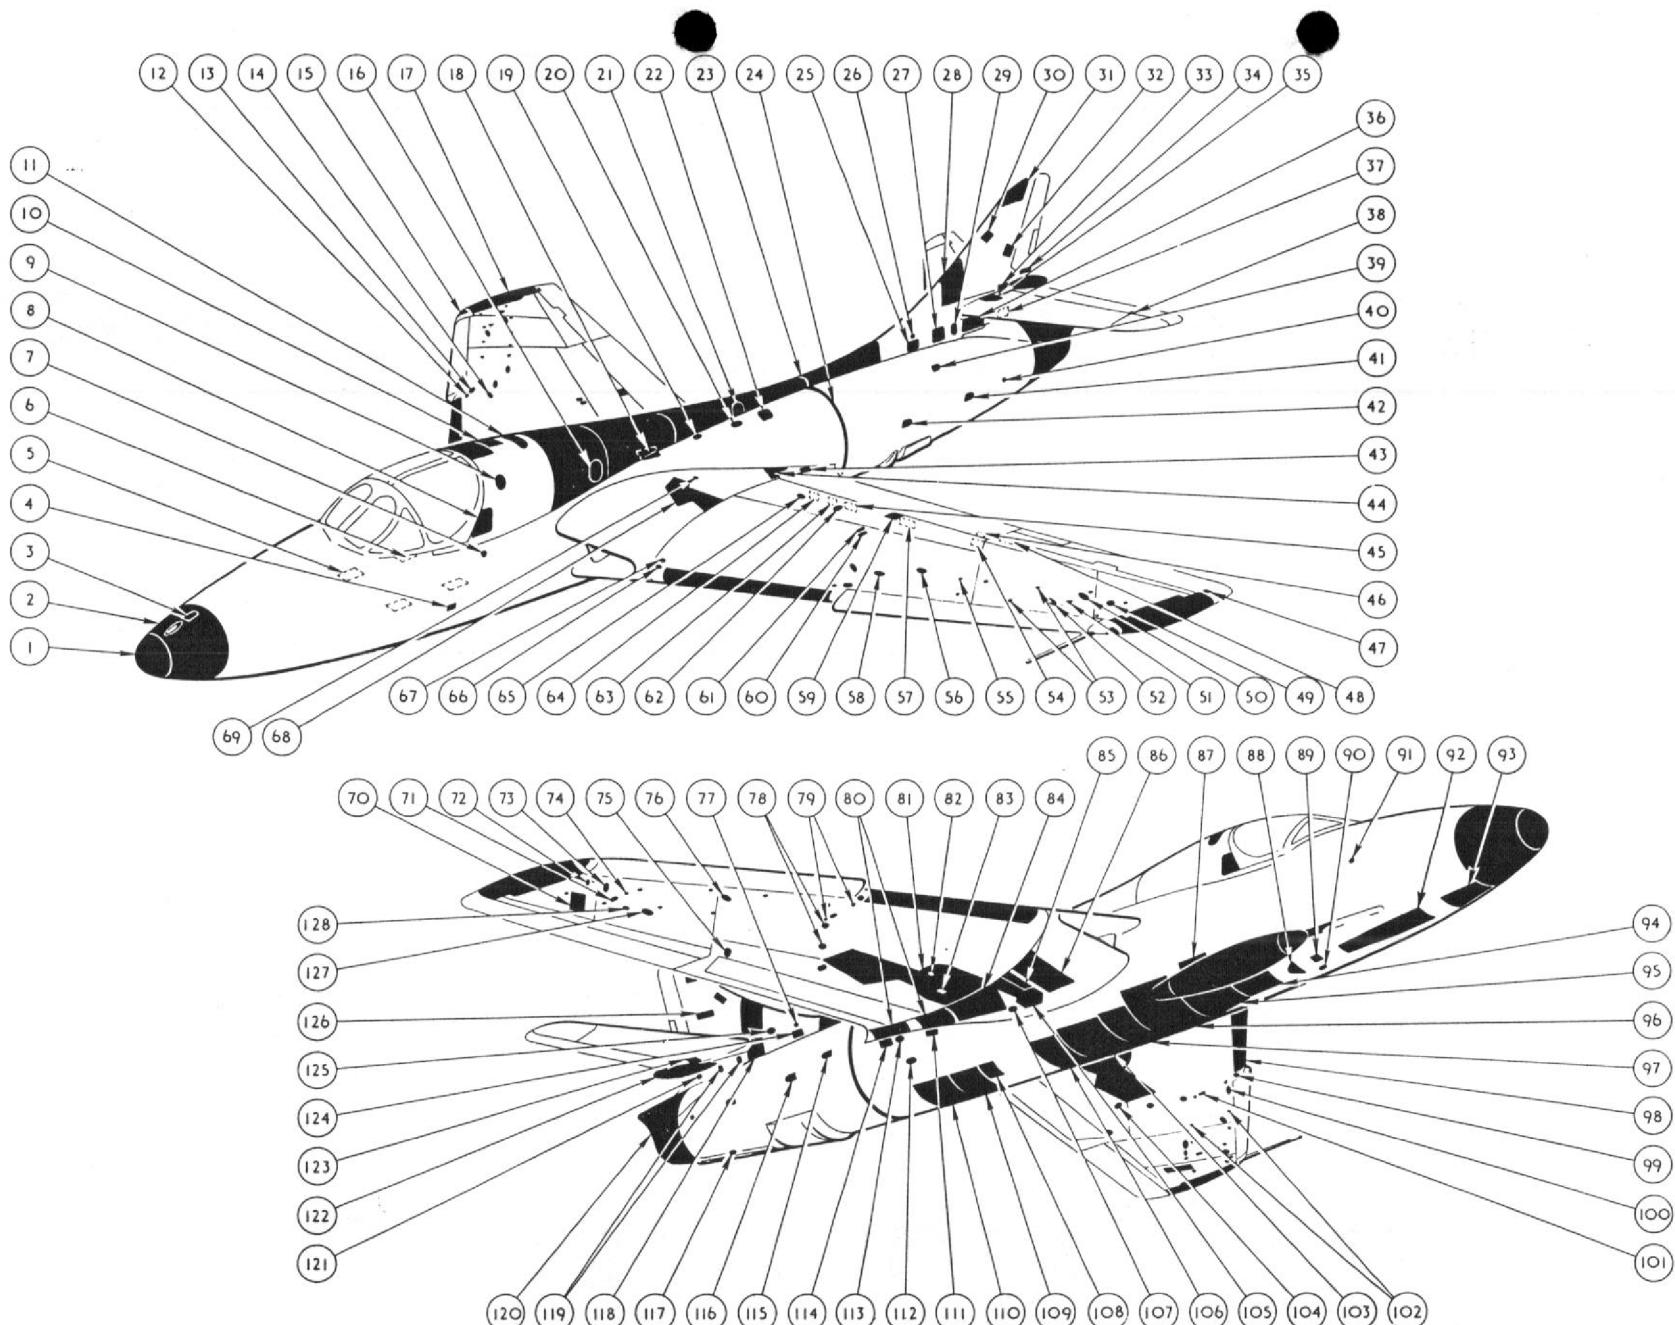

Fig. 3 Access panels
KEY TO FIG.3 (ACCESS PANELS)
7. The positions of the access doors and removable panels are shown in fig.3, the components to which they give access being given in the key. When handling the doors and panels, care should be taken to ensure that they are not damaged or distorted in any way. When re-fitting them, ensure that they fit flush with the surrounding surface and that they are secure and effectively locked. Screws removed from access panels must be replaced by screws of the same length, after first ensuring that fouling has not already taken place, otherwise damage to components, pipe lines or structure in the vicinity of the panel may occur.